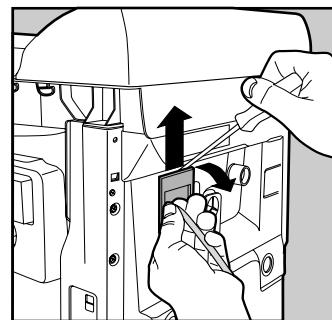

Fig. 4
- 4.** Unscrew the 2 outer filter fastening screws and, with the help of a screwdriver (see fig. 4), release it from the back panel by pulling upwards.